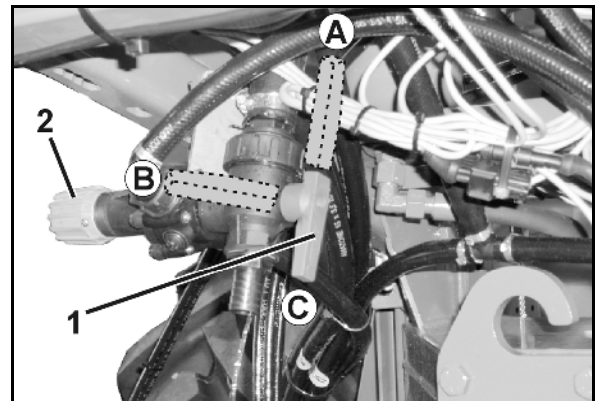

Fig. 90
- the DUS switchover tap (Fig. 90/1).
- the DUS pressure relief valve (Fig. 90/2). The DUS pressure relief valve is permanently set at the factory and reduces the pressure in the pressure circulating system to 1 bar.
- If the DUS switchover tap is in position (Fig. 90/A), the pressure circulating system is switched on.
- If the DUS switchover tap is in position (Fig. 90/B), the pressure circulating system is switched off.
- if the DUS switchover tap is in position (Fig. 90/C), liquid is released from the field sprayer.